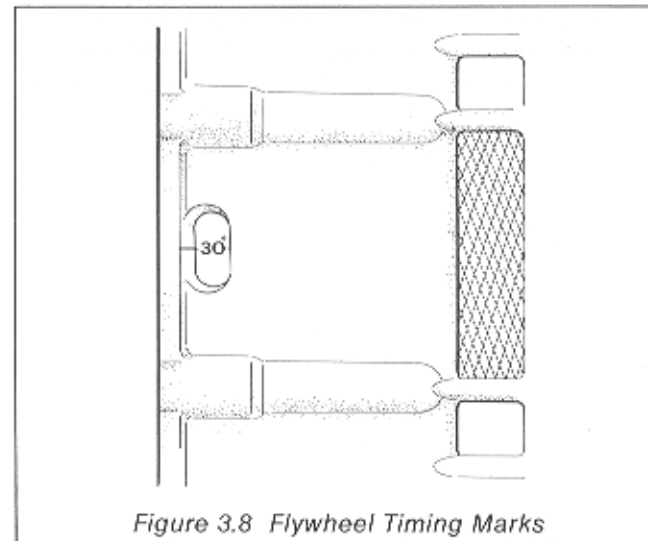

Figure 3.8 Flywheel Timing Marks
- (9) Turn the flywheel slowly by hand in the direction of rotation until the fuel flow from the spill pipe stops. This position is known as the spill point. To ensure that the position noted is correct it is advisable to repeat the operation a number of times.
- (10) Read off the angle through the timing hole in the bell housing (Figure 3.8). Check with the figures detailed in Table 3.4. If the angle is too large, shims must be added between the pump and the crankcase, if too small, shims must be removed. To calculate the thickness of shims required 1 degree is equal to 0.1mm (0.004in.).
- (11) When the correct timing angle has been obtained remove the spill pipe, unscrew and remove the union body (1) with the 'O' ring seal (4).
- (12) Replace the delivery valve (6), spring (3) and spring peg (2) if fitted.
- (13) Locate the 'O' ring seal (4) on the lower diameter of the Bryce 'A' and 'B' series union body and ensure that the 'O' ring seal is in position on the union body of the Bryce 'E' and IESA pumps. Screw the union body into the pump and torque load to 41Nm (30lbf ft.).
- (14) Connect the fuel pipes.
- (15) Fill the fuel tank with the approved fuel and bleed the fuel system where applicable as detailed in Section 1.